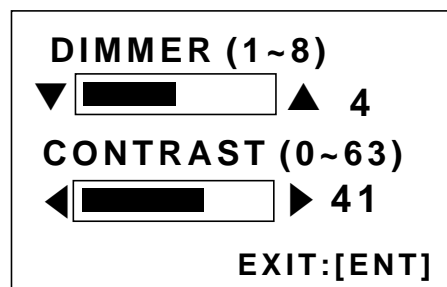

Figure 1-3 Screen for adjustment of display dimmer and contrast
1. Press the [DIM/PWR] key. The display shown in Figure 1-3 appears.